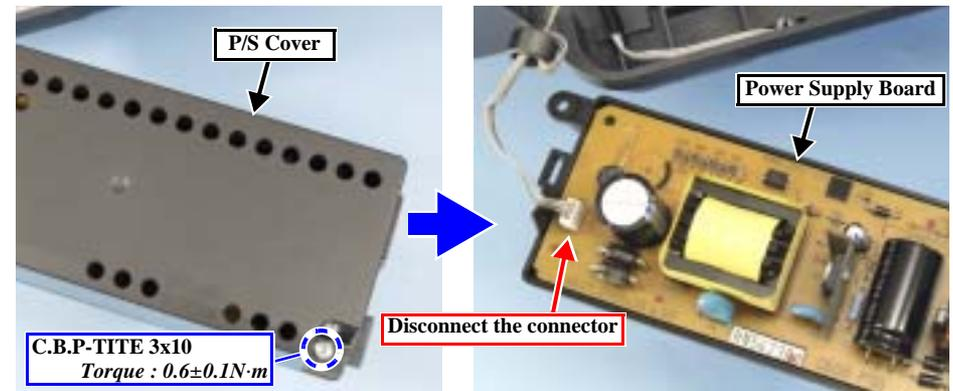

Figure 4-33. Removing the Power Supply Board
3. Remove the screw, and remove the P/S Cover. (Fig. 4-33)